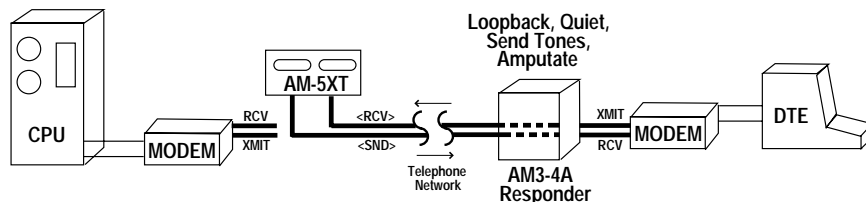

Figure 5-4. 4-Wire Testing with Responder
1. Connect an AM5XT/eXT to the near end of a 4-wire facility, and an Ameritec AM3-4A or AM3-4B Responder at the far end. A typical configuration is illustrated in Figure 5-4.